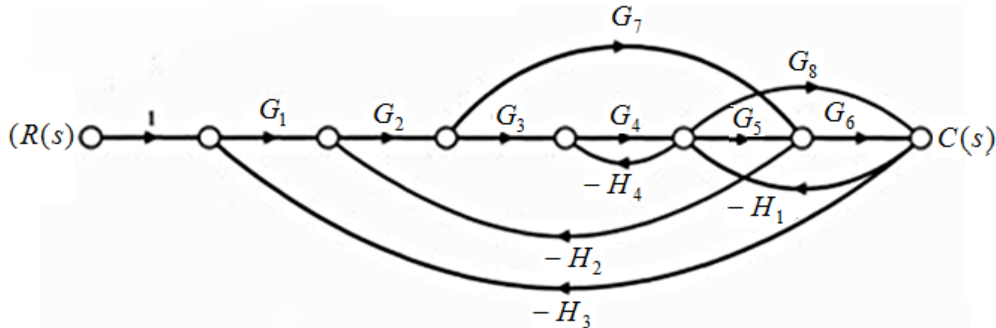

Figure 4: A signal flow graph
- (a) **Figure 4** shows a signal flow graph of a system. Obtain the overall transfer function, $\frac{C(s)}{R(s)}$ of the system.